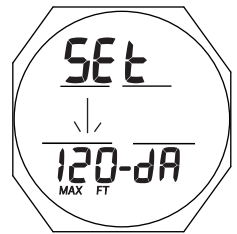

Fig. 41 - SET DEPTH ALARM
**Set Depth Alarm (DA)**, information includes (Fig. 41):